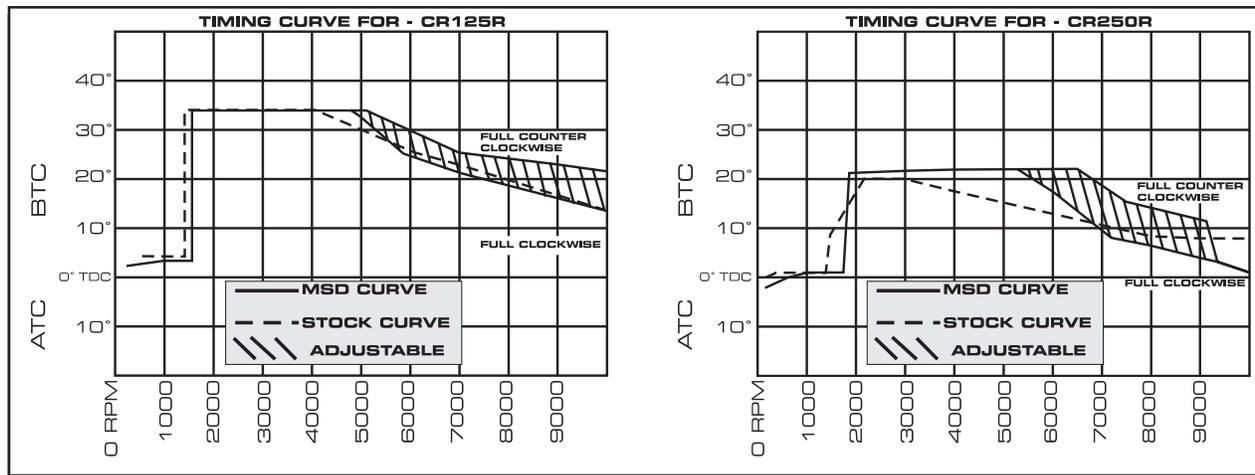

Figure 1 Adjusting the Ignition Timing Curve.
Timing: The Enhancer Ignition allows the user to adjust the ignition timing curve to optimize engine power output. This is done by rotating the potentiometer shaft located on the back of the ignition. Clockwise rotation retards the timing while counterclockwise advances the timing (Figure 1).
- It is recommended to start with the stock stator plate in the factory position and rotating the adjustable potentiometer shaft to the full clockwise position. There is a total of 8° of total adjustment (Figure 1). (Referenced at 9000 rpm)
- The 125 engine will run about 1° more retarded than the stock ignition with the potentiometer in the full clockwise position and 7° advanced over the stock timing curve with the potentiometer in the full counterclockwise position (Figure 1). (Referenced at 9000 rpm)
- The 250 engine will run about 5° more retarded than the stock timing curve with the potentiometer shaft in the full clockwise position and 3° advanced over the stock timing with the potentiometer in the full counterclockwise position (Figure1).